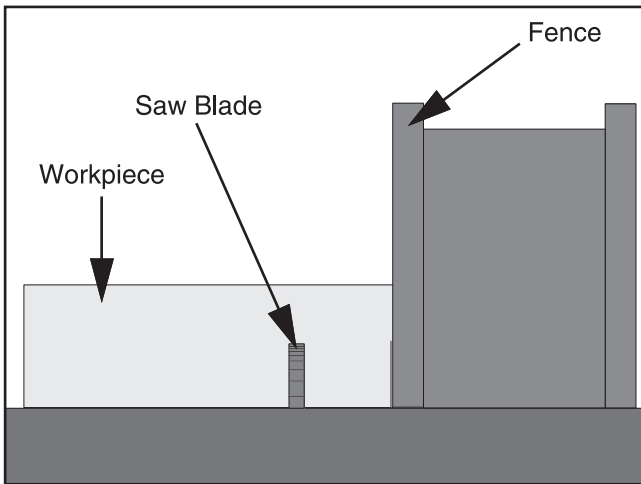

Figure 53. Rabbet cutting.
3. Adjust the fence so the blade is aligned with the inside of your rabbet channel as shown in **Figure 53**.